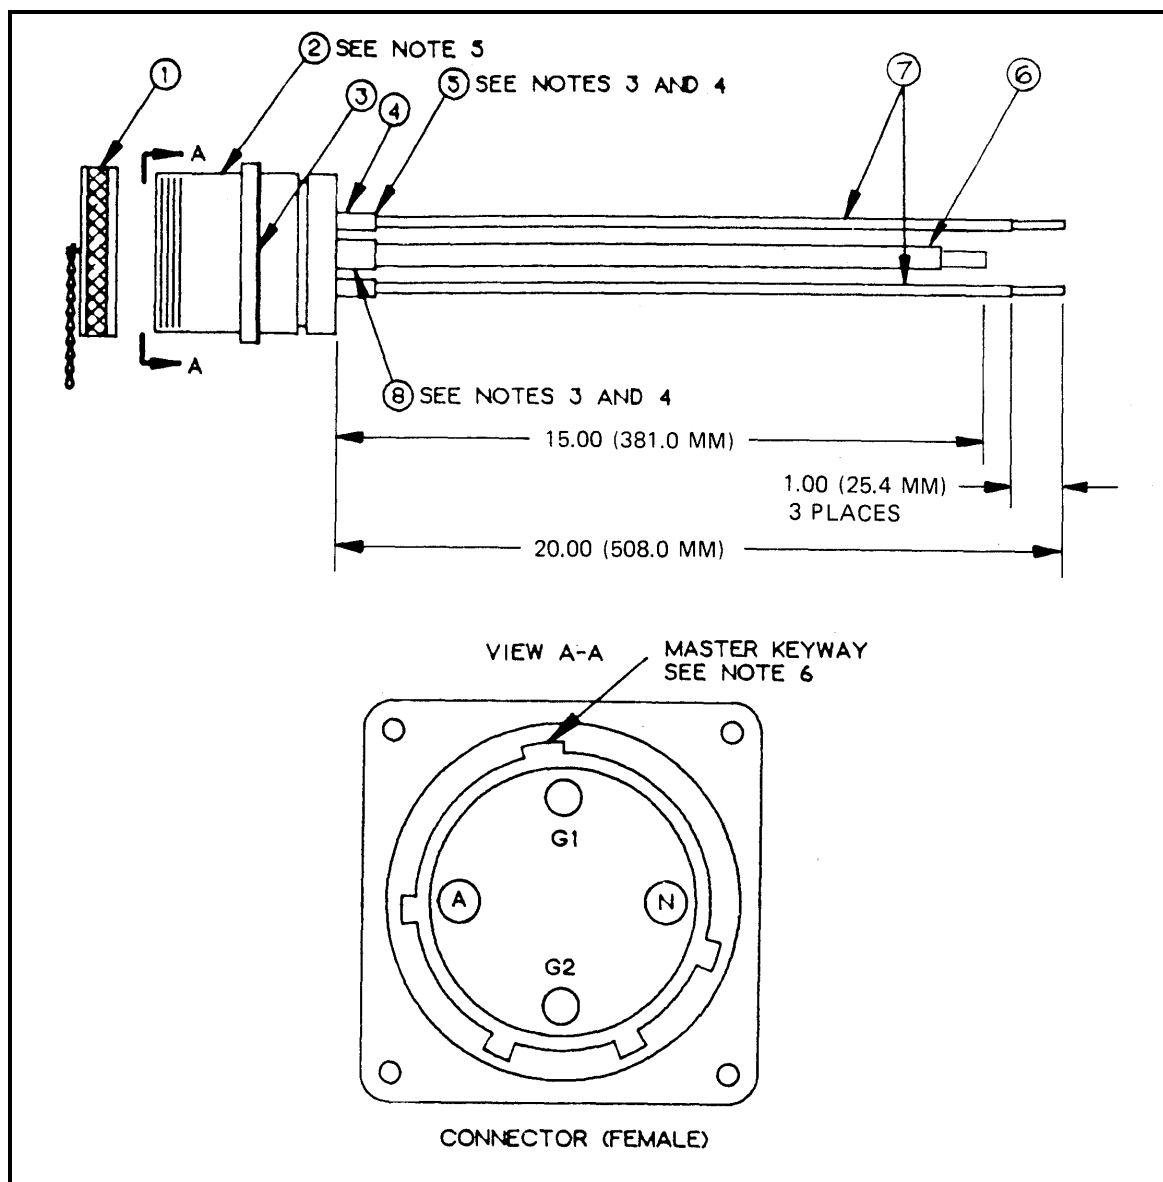

Figure F-32. M60 A/P (PDISE), 60-Amp, Output Connector Assembly, (J2)
F-32 M60 A/P (PDISE), 60-Amp, Output Connector Assembly, (J2)**Component Legend for Figure F-32**
- c. Electrical connector (Figure F-32, Item 2) is furnished with the following: